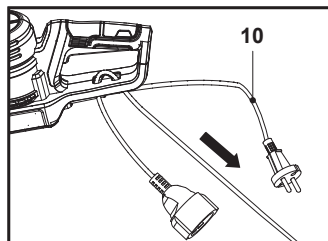

Fig. 3
2. Pull the extension cord over the cord retainer (11) and gently tug on the power cord (10) to ensure that it is firmly secured (Fig. 3).